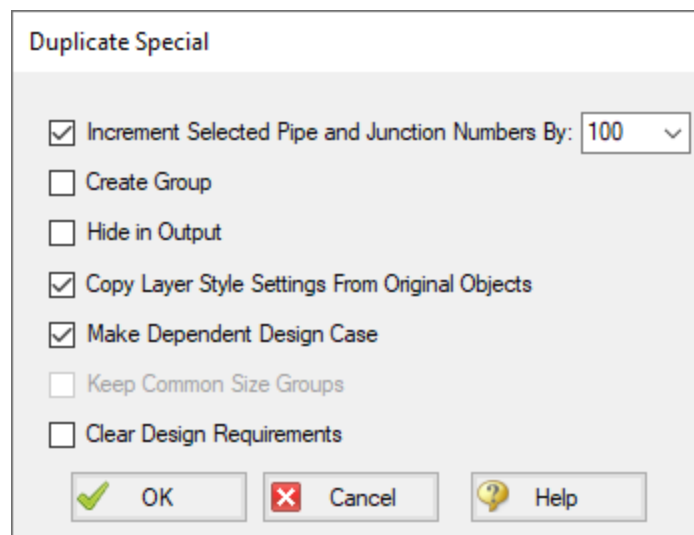

Figure 3: Duplicate Special simplifies creation of dependent design cases
4. Go to the **Edit menu** again and choose **Duplicate Special** (see Figure 3).